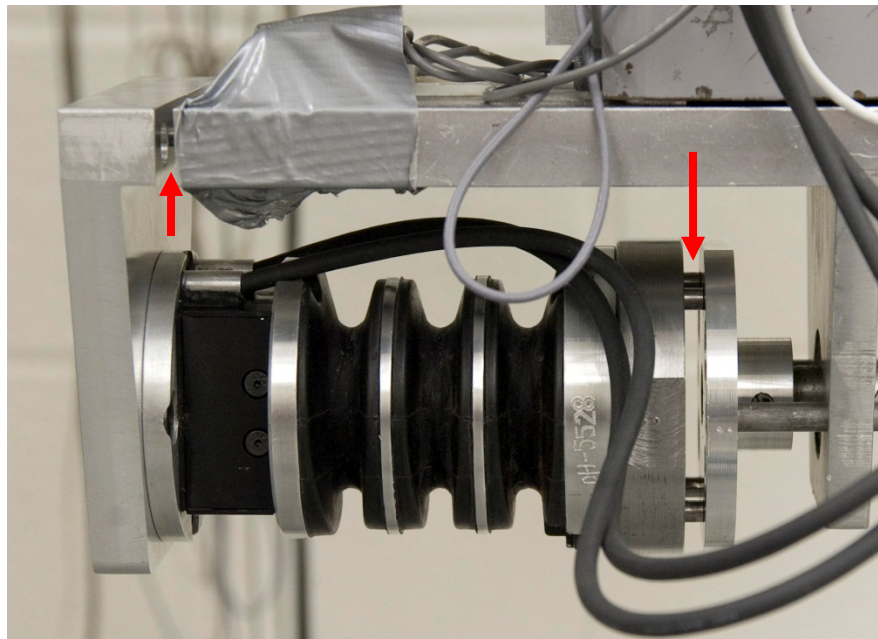

Figure 51. Align pins in torsion fixture end plate and neck adapter plate assembly into torsion fixture
- To install the neck to the twist test fixture, align the pins on the torsion fixture end plate and the neck adapter plate assembly into the fixture (Figure 51).